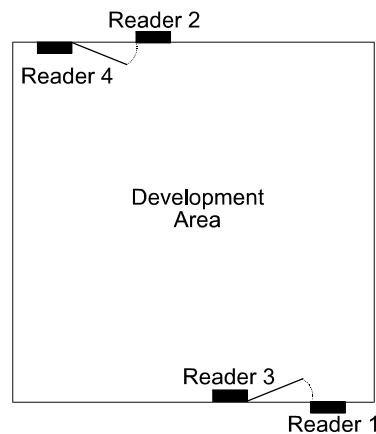

Figure 3 Possible Reader Locations for Local Anti-Passback
Local anti-passback only operates between the doors on a single door controller with specific readers allocated as entry ("doors" 1 and 2) and exit ("doors" 3 and 4), see Figure 3.
1. **Anti-Passback on Entry.** When this feature is active, any key used to enter an area cannot be used to enter the area again unless it has first been used to leave the area. Using the example shown in Figure 3, if you use your key to enter development, you cannot use the same key to enter development unless it has first been used to leave development. If the key is used again at an entry door, a **No Entry: Passback** transaction is generated and the lock will not operate. Access will continue to be denied until the key has been used at an exit reader or the passback timeout period has expired.
2. **Anti-Passback on Exit.** When this feature is active, a key cannot be used to exit an area unless it has first been used to enter the area. This is only available when anti-passback on entry is also active. Using the example shown in Figure 3, if you have not used your key to enter development (e.g. you came in with someone else), you cannot use your key to leave development. If the key is used again at an exit door, a **No Exit: Passback** transaction is produced and the lock will not operate. Access will continue to be denied until the key has been used at an entry reader or the passback timeout period has expired.